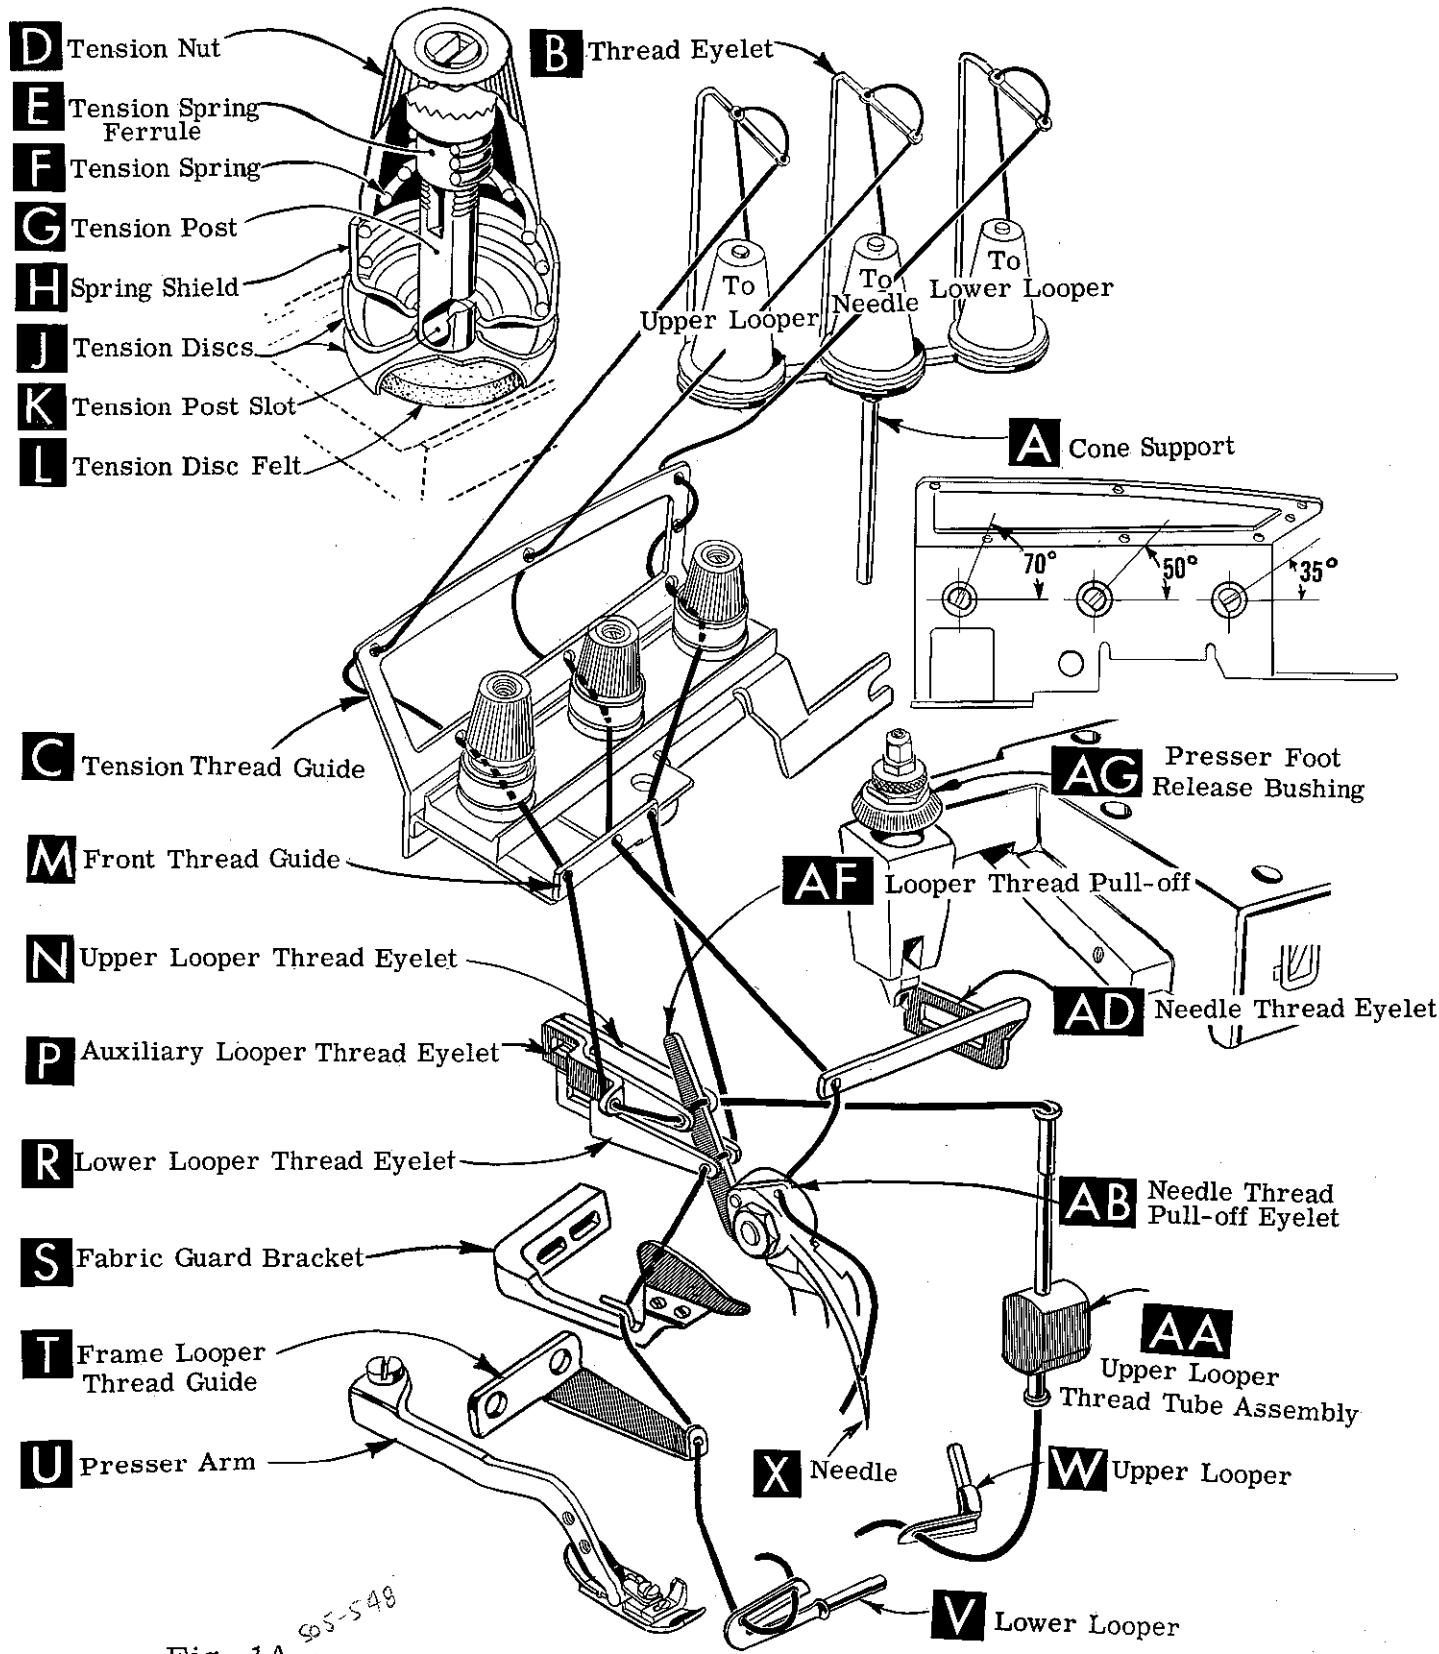

Fig. 1A \$5-548
NOTE: Refer to Fig. 1 for threading Styles 39500 FJ and JJ or refer to Fig. 1A for threading Style 39500 FL.
Double end of thread and lead it through the left eyelet of front thread guide (M, Fig. 1A). Turn handwheel until point of upper looper (W, Fig. 1A) is all the way to the left. Lead thread through auxiliary looper thread eyelet (P) from back to front, then through both eyes of upper looper thread eyelet (N) from left to right. NOTE: thread must pass in front of looper thread pull-off (AF).
Be sure machine Styles 39500 FJ and JJ are threaded according to threading diagram Fig. 1 and that machine Style 39500 FL is threaded according to threading diagram Fig. 1A.
With thread tensions light, set looper thread eyelet (R, Fig. 1) or looper thread eyelets (N and R, Fig. 1A) about horizontal and in the middle of their front to back location. Operate machine slowly, without presser foot in place, to make sure chain forms and moves off the tongue freely.